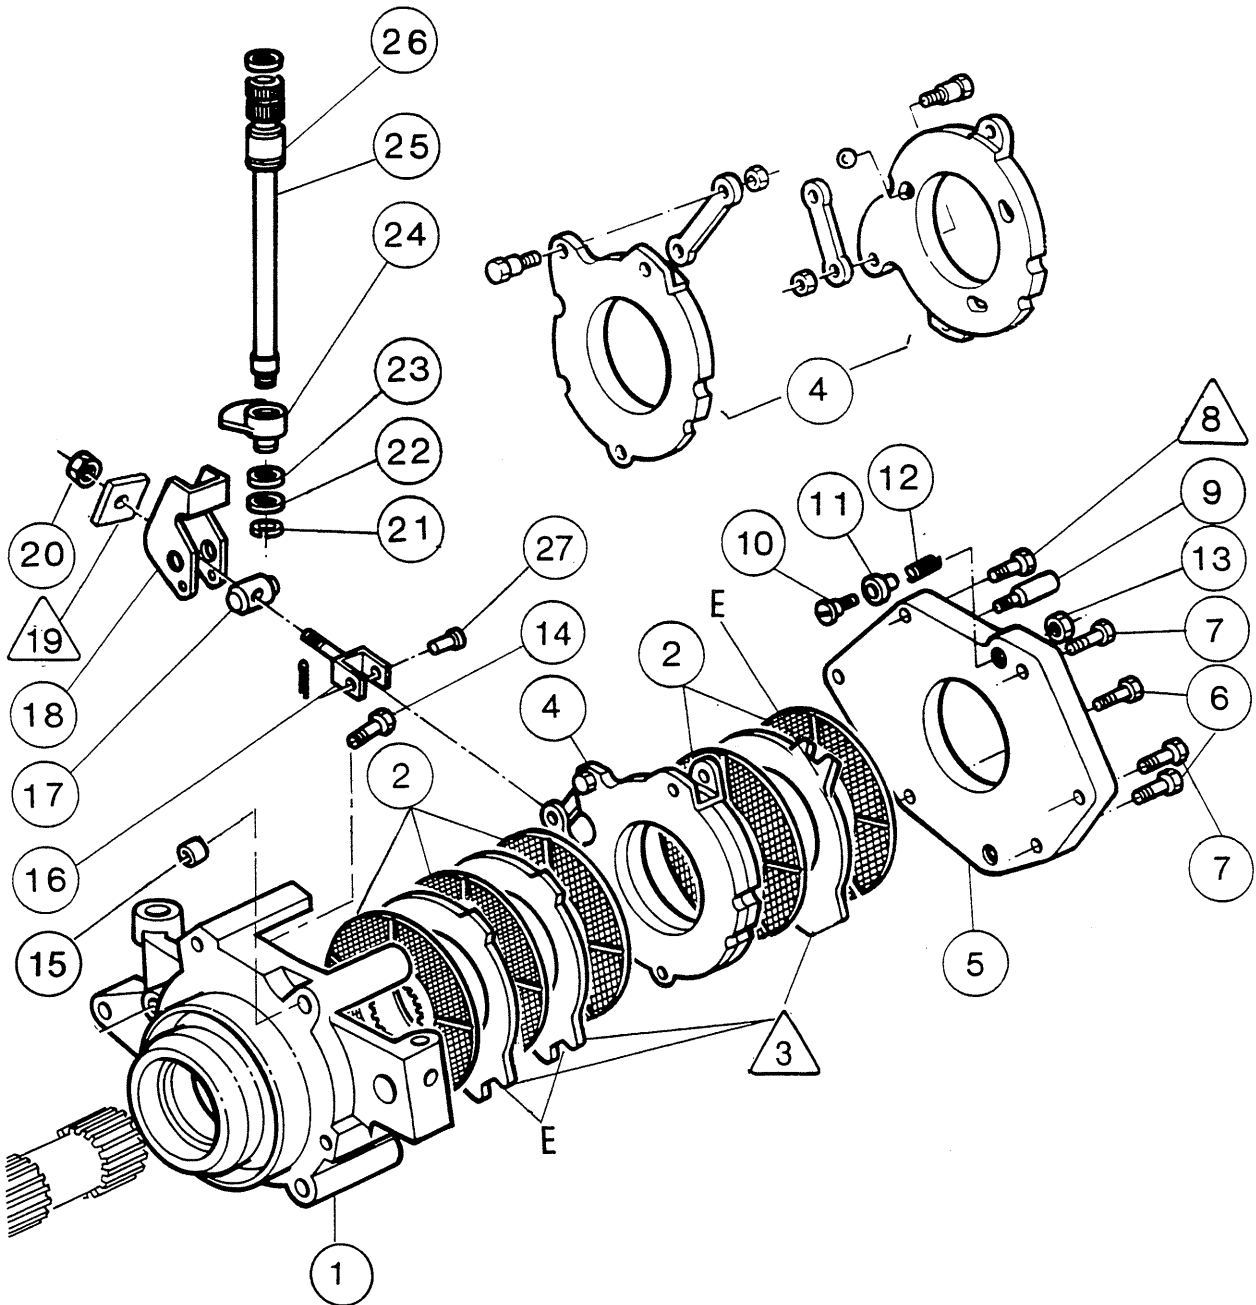

Fig. 2
- The recesses on the intermediate plates must be placed on the bosses machined on the unit **(1)**. The recesses in the front plate must be oriented towards the lower boss and the recess in the rear plate must be oriented towards the upper boss (Fig. 2). This layout avoids interference between the plates and the bolts on the mechanism **(4)**.